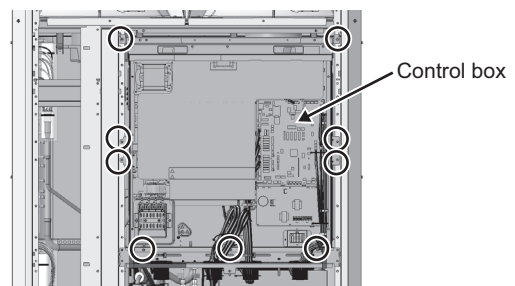

Fig. 56
(3) Remove the control box. (Nine screws: Fig. 56)